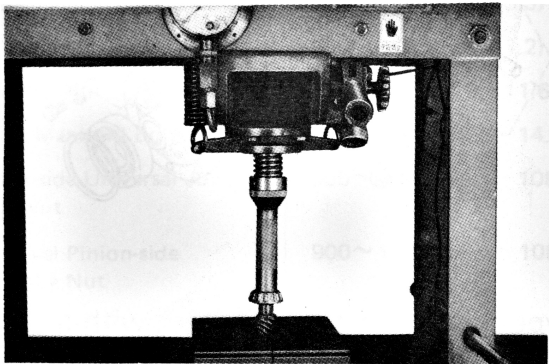

Fig. 4-4.
- 1) Installation of the front and rear bearing inner races necessitates the use of the special tool (09913-80111) as shown in the Fig. 4-4.